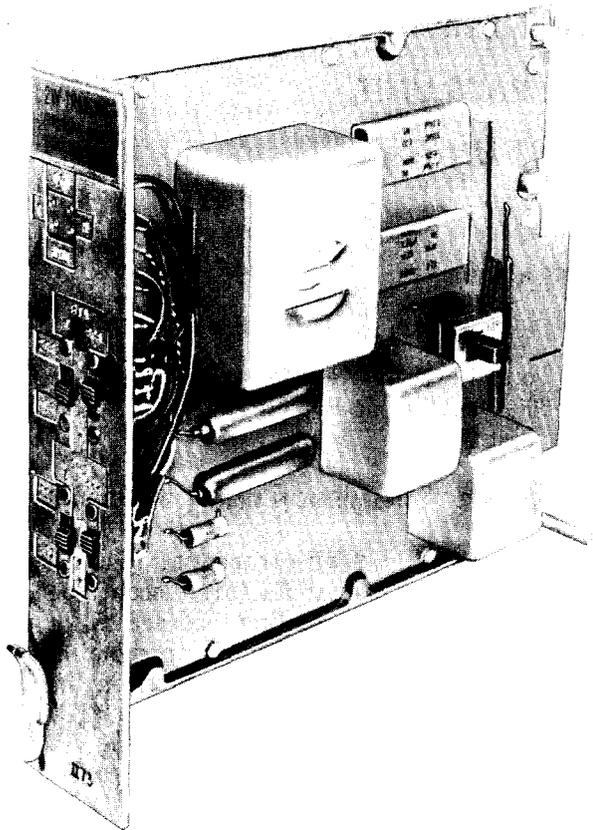

Fig. 1—Two-Wire Transmission Unit J99343BA
2.01 The J99343BA 2-wire transmission unit (Fig. 1) is now rated manufacture discontinued. It was designed to allow signaling lead access for the loop signaling repeater (LSR) and loop signaling extender (LSE). Fully modified J99343BA units include most features of the replacement unit J99343BC.